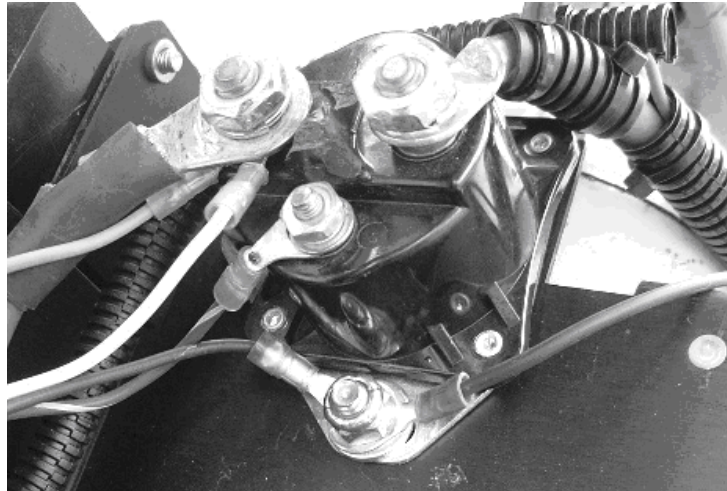

FIGURE 4
3. The PCM is now accessible. To remove, begin by disconnecting the wires that are attached to the motor solenoid (figure 4). Using a 9/16", 7/16" and 3/8" wrench or socket, remove all wires from the motor solenoid. Replace Motor Solenoid fasteners onto motor solenoid. Remove the mounting nuts from the motor solenoid mounting bracket so the motor solenoid can be removed. Retain motor solenoid so that it can be re-located to engine compartment for final assembly.